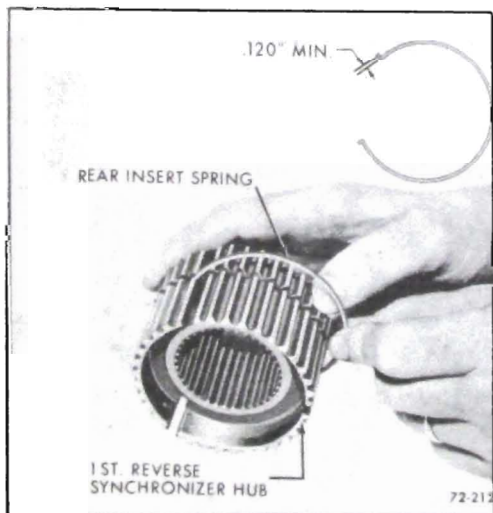

Figure 72-212 - Installing Rear Insert Spring
1. Install rear insert spring in groove in first-reverse synchronizer hub. See Figure 72-212.